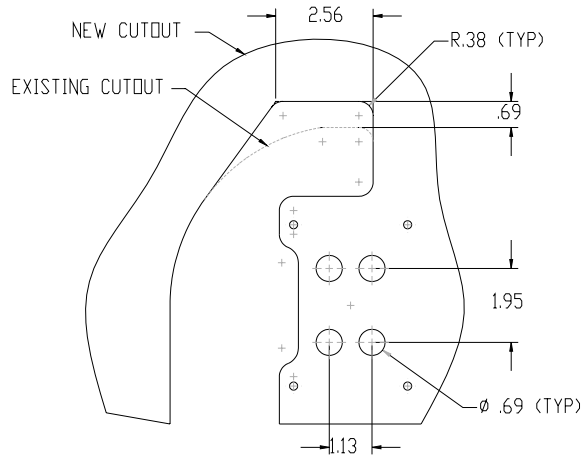

Figure 4, Wheel Pant Cutout
13. Modify wheel pant (Part Number 7-1541 L/R) per figure 4.